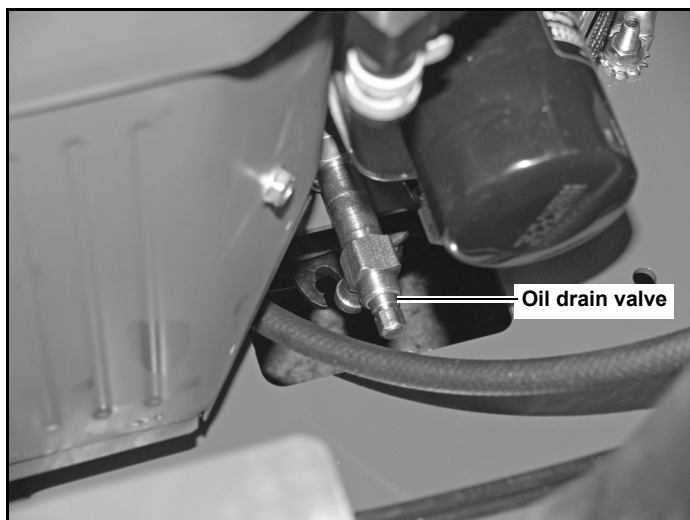

Figure 4-6
1. Locate the oil drain valve on the engine. Figure 4-6